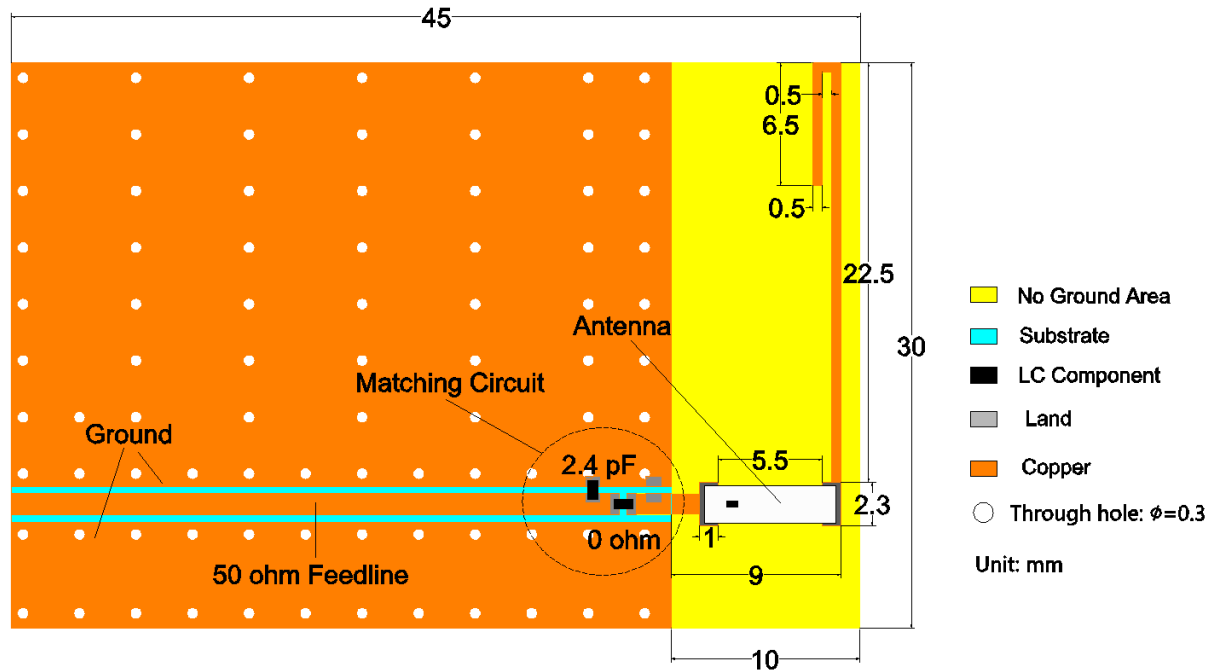

Fig. 4-2
2) Recommended Land Pattern: See Fig.4-2
* The proposed pi-shaped matching circuits and LC component values in Fig.4-2 are based on our evaluation board. The actual matching circuits need to be adjusted when the antenna is applied in the client's design, because the antenna impedance is easily affected by PCB layout.